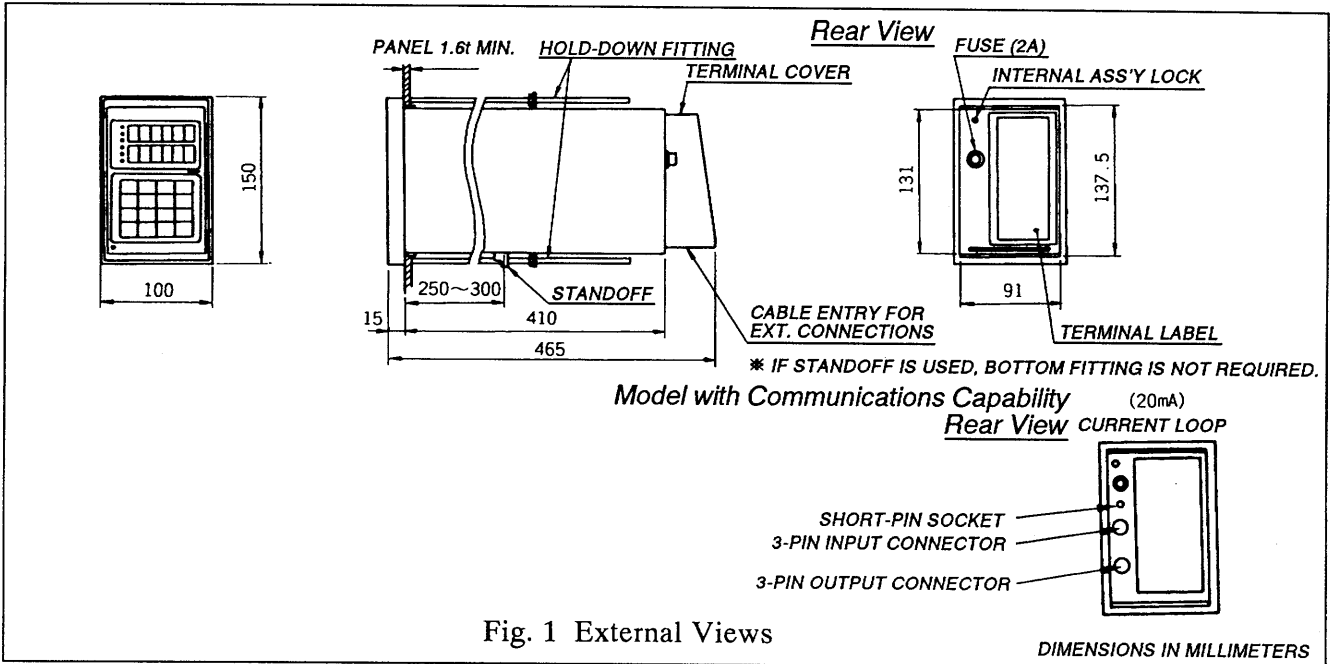

Fig. 1 External Views
2. Fit the enclosure hold-down fittings in the top and bottom slots on the rear of the enclosure and, confirming that the controller is positioned on a level plane, secure it to the panel with the hold-down fittings (Fig. 1).